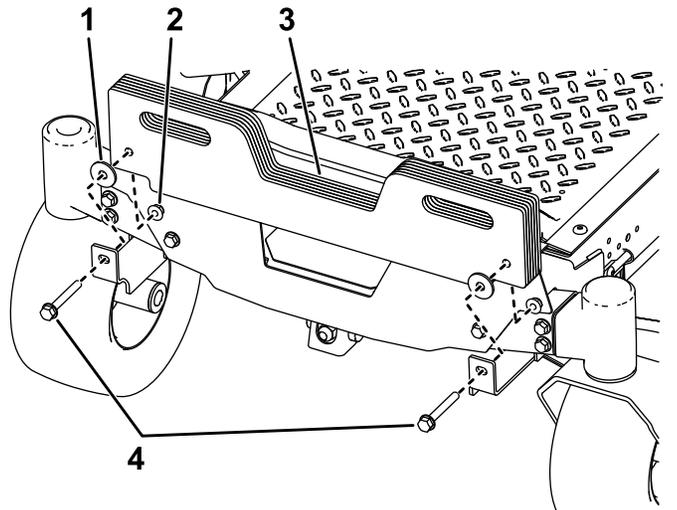

Figure 16
5. **For machines with a bagger installed only:** Install the included additional suitcase weights to the machine using 2 bolts (3/8 x 3-3/4 inches) as necessary according to the table below (Figure 16).